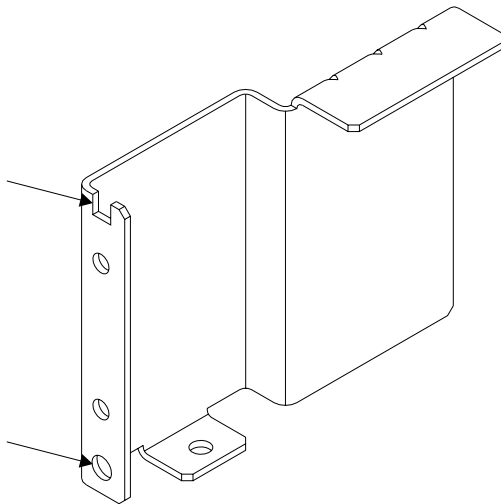

Figure 1. Special Right-Hand Bracket for Remote-Power-On Control Unit
- Early-type support rails for RS/6000 racks use back clamp plates **5**. Later-type support rails use back brackets **6** and **7**. Normally, a bracket has two holes in its back flange, as shown in item **6**. If, however, you are going to install a remote-power-on control unit **8**, you need a special right-hand back bracket **7** that has an extra hole and a slot in its back flange (see Figure 1).